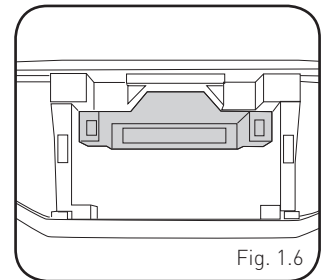

Fig. 1.6
5. To make room for the aftermarket radio, cut out small section of the upper dash cavity (highlighted). (Fig. 1.6)